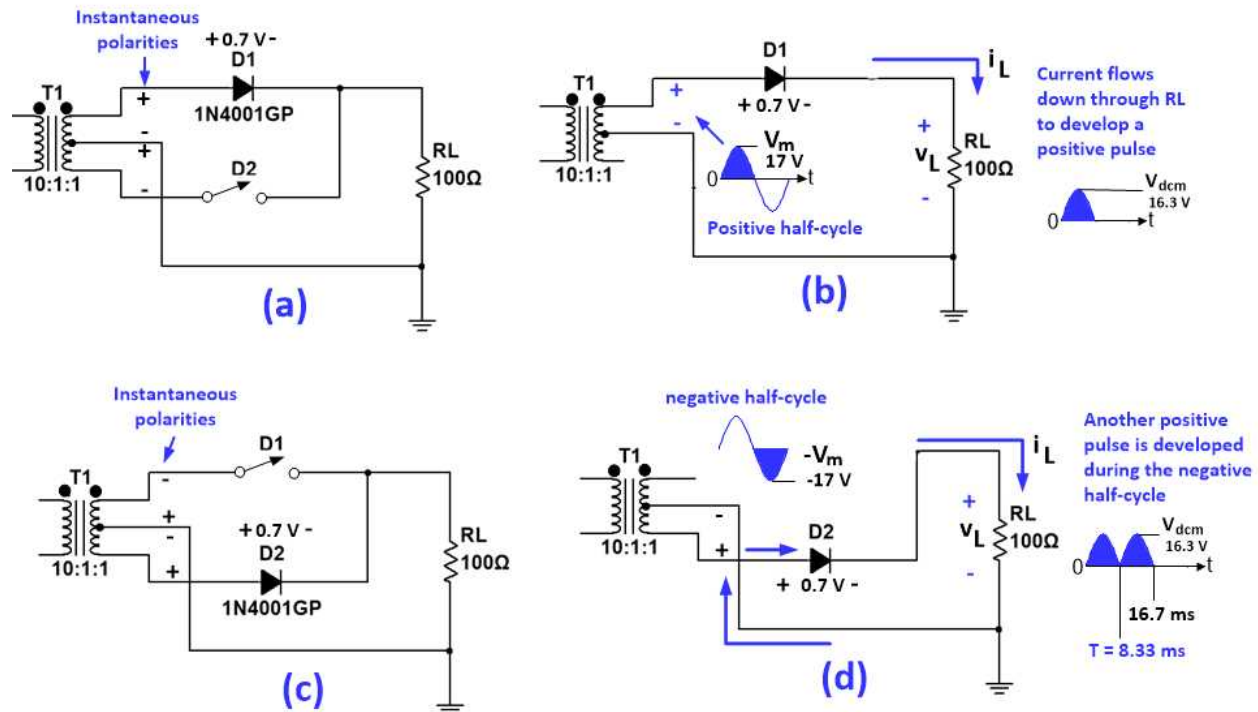

Figure 4-31.
Figure 4-31 illustrates the basic operation of the full-wave rectifier using a center-tapped transformer. In Fig. 4-31(a) we see the instantaneous polarities of the secondary waveforms during their positive half cycle. Diode D_1 is forward biased (positive to its anode) and diode D_2 is reverse biased (negative to its anode). The voltage drop across D_1 is held to be a constant 0.7 V (knee-voltage model) while diode D_2 behaves like an open switch. Since diode D_2 acts like an open, it and its circuitry have been removed to clarify the circuit operation as shown in Fig. 4-31(b). Current flows down through the load resistance R_L to develop a positive pulse of voltage across it.
During the negative half-cycle of the secondary voltage, the lower terminal of the transformer becomes positive relative to the center tap as shown in Fig. 4-31(c). As can be seen, diode D_2 is forward biased while diode D_1 is reverse biased. Diode D_2 has a voltage drop of 0.7 V and diode D_1 is an open switch. To simplify the discussion, the diode D_1 circuit has been removed to produce the equivalent circuit given in Fig. 4-31(d). Again, current flows down through the load and another positive pulse is produced. **Since both the positive and negative cycles are used to produce positive pulses across the load, the entire (full) wave is being used. Hence, we call this full-wave rectification.**
In Fig. 4-31(d) we see the period (T) of the full wave rectified waveform is 8.33 ms. The corresponding frequency (f) can be determined.